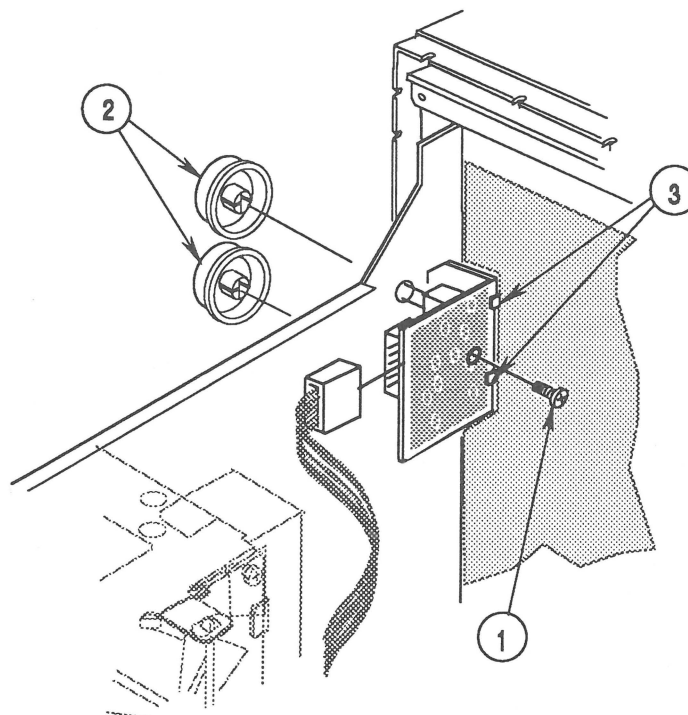

FIGURE 25
6. Remove the mounting screw (Figure 25, #1) from the contrast brightness board.
7. Pull off the two control knobs (Figure 25, #2) and remove the contrast brightness board. Keep the knobs to install them on the replacement board.
2. Replace the contrast brightness board within the chassis mounting tabs (Figure 25, #3), and replace the mounting screw (Figure 25, #1).
3. Replace the two control knobs (Figure 25, #2).